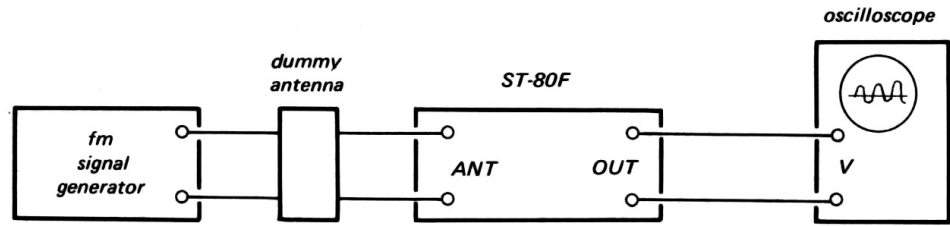

Fig. 5-9. Fm front-end alignment test setup
2. Connect the equipment as shown in Fig. 5-9.